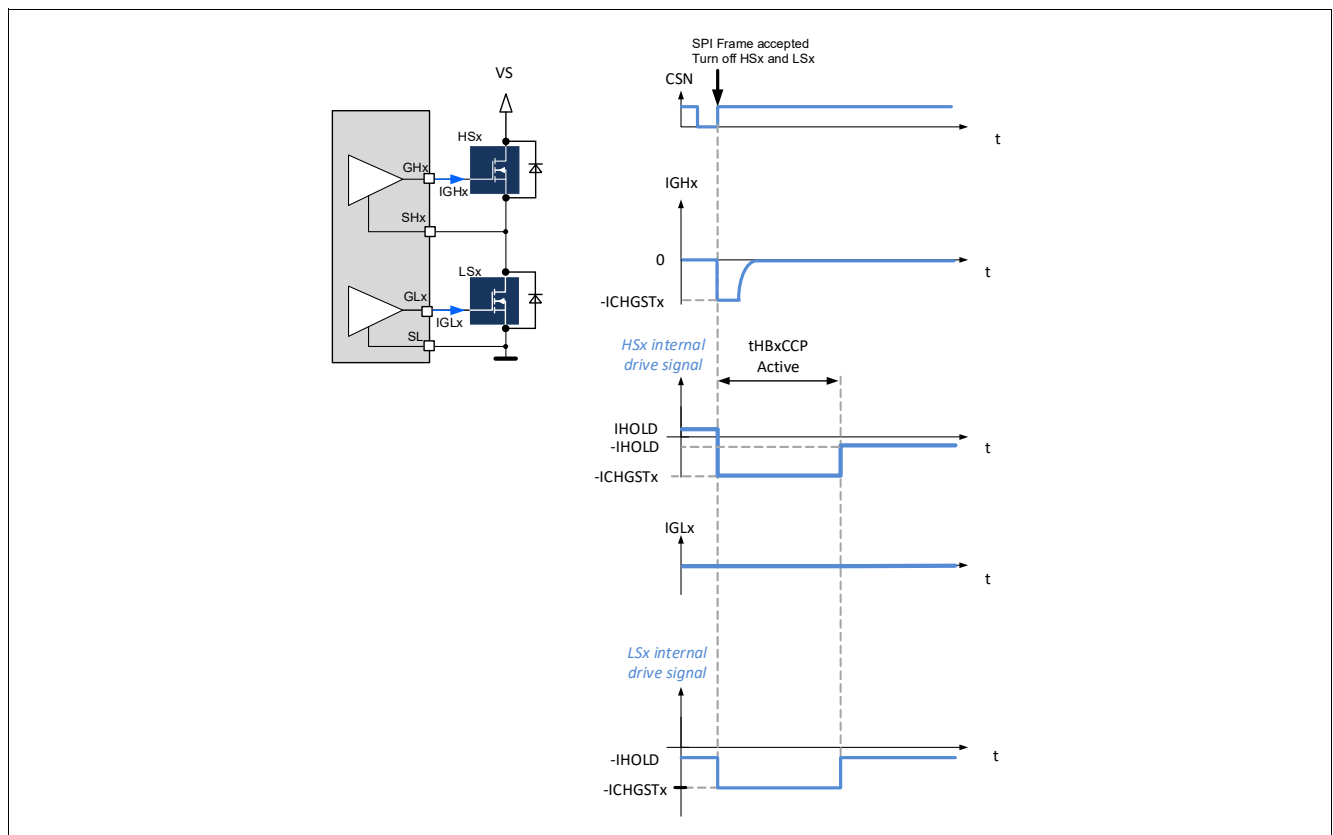

Figure 39 Turn-off of the high-side and low-side MOSFETs of a half-bridge
- The gate of HSx and LSx are discharged with the current $-ICHGSTx$ for the duration $t_{HBxCCP\ ACTIVE}$ (Figure 39).